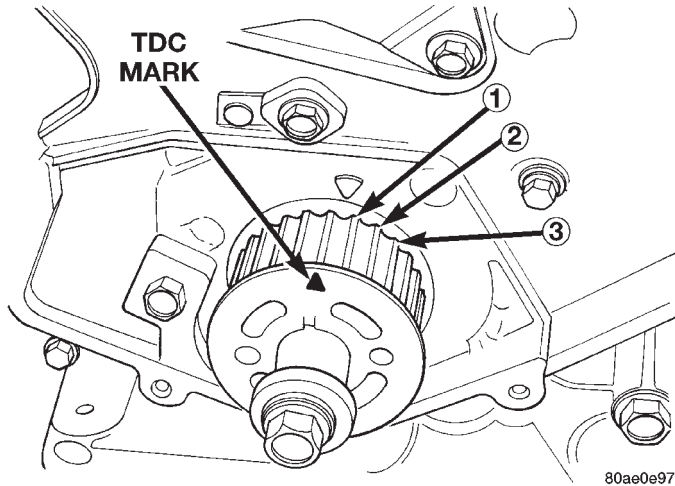

Fig. 60 Crankshaft Sprocket Timing
(1) Set crankshaft sprocket to TDC by aligning the sprocket with the arrow on the oil pump housing, then back off to 3 notches before TDC (Fig. 60).
(2) Set camshaft to TDC by aligning mark on sprocket with the arrow on the rear of timing belt cover (Fig. 60).